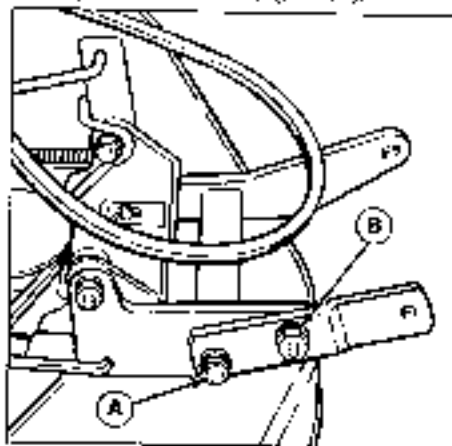

Figure 34. Mower Hitch (shown removed from tractor)
4. Loosen the cap screw and flange nut in right mower hitch (figure 34).
6. Retighten the cap screw (A, figure 34) and flange nut (B). Torque cap screw (A) to 50 ft. lbs. Torque nut (B) to 65 ft. lbs.